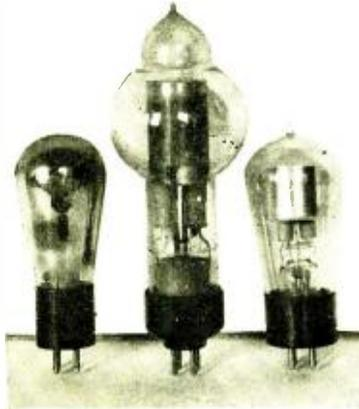

Fig. 1. The 300 mil. and the 90 mil. rectifier tubes contrasted with a 210 power tube
Fig. 1 shows the 90 mil. tube and the 300 mil. tube contrasted with a 210 power amplifier tube.
- FIG. 1
In Fig. 1 we have a tube which we will assume has a series of impulses at radio frequency being fed to the grid; a choke and batteries.
The same as Fig. 1 but with the addition of a by-pass condenser